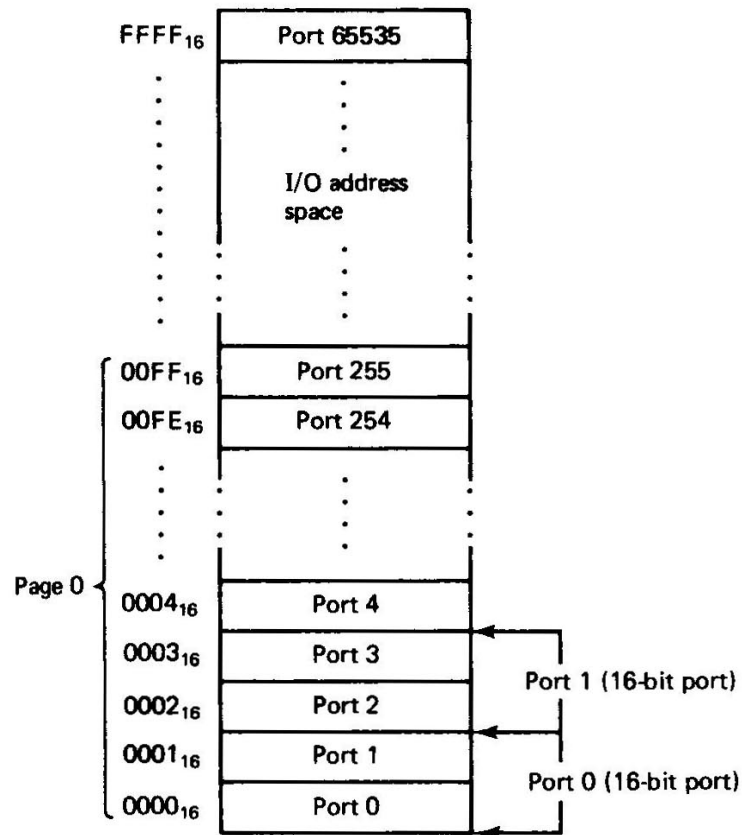

Figure 8-45 Isolated I/O ports.
- **Fig. 8-45** shows that bytes of data in two consecutive I/O addresses could be accessed as **word-wide data**. For instance, I/O addresses 0000_{H} , 0001_{H} , 0002_{H} , and 0003_{H} can be treated as independent byte-wide I/O ports: **ports 0, 1, 2 and 3**, or as word-wide **ports 0 and 1**.